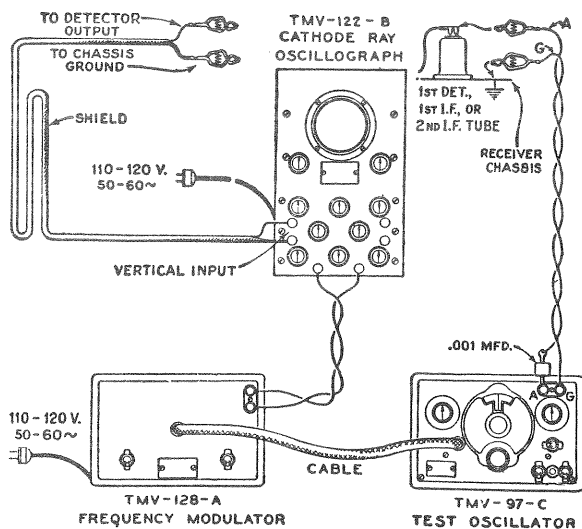
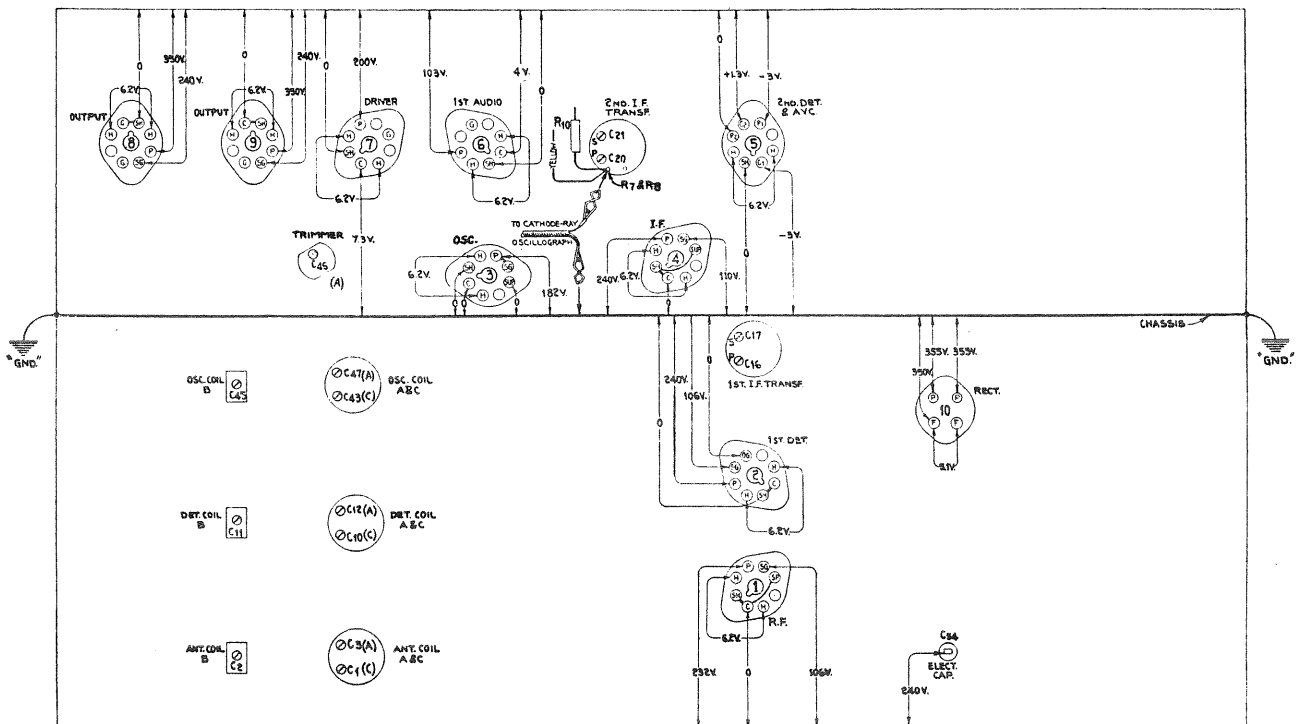

Figure 5—Alignment Apparatus Connections
Figure 6—Trimmer Locations and Radiotron Socket Voltages Measured at 115 Volts A.C.—No Signal—Volume Control Maximum
The four trimmers of the two i-f transformers are located as shown by Figure 6. Each must be aligned to a basic frequency of **460 kc.** The last transformer must be aligned firstly and the first transformer aligned secondly. For such a process, it is necessary to feed the output of the Full Range Oscillator to the stages in their order of alignment, adjusting the trimmers of each transformer and observing the effect at the second detector output on the Cathode-Ray Oscillograph. The proper point of connection of the Oscillograph is with its vertical "high" input terminal attached to the juncture of R-7 and R-8, as illustrated in Figure 6, and with the "0" or ground terminal to the chassis. The "Ext. Sync." terminals of the Oscillograph should be connected to the Frequency Modulator as shown by Figure 5. A .001 mfd. capacitor installed in series with the Oscillator "Ant." lead will prevent the voltages of the stage under alignment from becoming upset. The vertical "A" amplifier should be "On" for the ensuing adjustments and its gain control kept at maximum. For each adjustment, the Oscillator output must be regulated so that the image obtained on the Oscillograph screen will be of the minimum size convenient for accurate observation. Proceed further as follows:—
- (b) Attach the output of the test Oscillator between the control grid cap of the RCA-6K7 i-f tube and chassis ground as shown typically by Figure 5. Tune the Oscillator to **460 kc.** and set its modulation switch to "On." Regulate its output until the signal produces a wave pattern on the Oscillograph screen, adjusting the Oscillograph controls to give a shape which is convenient for peak indications. Cause the image to stand still on the screen by manipulation of the frequency and synchronizing controls. Then carefully tune the two trimmers C-20 and C-21 of the second i-f transformer to produce maximum amplitude (vertical deflection) of the oscillographic image. Under this condition the transformer will be sharply resonated to 460 kc.
- (c) The Frequency Modulator should then be placed in operation and interconnected with the Full Range Oscillator by means of the special shielded patch cord. Figure 5 shows the proper arrangement. Set the Frequency Modulator sweep range switch to its "Lo" position and turn the Oscillator modulation switch to "Off." Change the timing control of the Oscillograph to "Ext." and place the range switch to its No. 2 position. Then carefully shift the tuning of the Oscillator so as to increase its frequency, until two distinct and similar waves appear on the Oscillograph screen and become exactly coincident at their highest points. This condition will be found to occur at an Oscillator setting of *approximately 540 kc.* The curves will be identical in shape but appearing in reversed positions. Adjust the frequency control of the Oscillograph in order to cause the waves to conform with the above requirement and to make them remain motionless on the screen. This will require a setting of approximately  $\frac{1}{2}$  clockwise rotation of the frequency control. The trimmers C-20 and C-21 should then be re-adjusted so that the two curves move together and become exactly coincident throughout their lengths, maintaining the maximum amplitude at which this condition can be brought about.
Locations of the various antenna, detector and oscillator coil trimmers are shown by Figure 6. The test Oscillator should be removed from connection with
sary to have the timing control of the Oscillograph on "Int." for this operation. After each trimmer has been peaked, the Oscillograph timing control should be set to "Ext." and the Frequency Modulator placed into operation with its connections to the Oscillator and Oscillograph made in accordance with Figure 5. Turn the modulation switch of the Oscillator to "Off" and retune the Oscillator (increase frequency) until the forward and reverse waves show on the Oscillograph and become coincident at their highest points. Adjust the trimmers C-47, C-12 and C-3 again, setting each to the point which produces the best coincidence and maximum amplitude of the wave images.
The voltage values indicated from the Radiotron socket contacts to chassis on Figure 6 will serve to assist in the location of causes for faulty operation. Each value as specified should hold within  $\pm 20\%$  when the receiver is normally operative at its rated supply voltage. Variations in excess of this limit will usually be indicative of trouble in the basic circuits. The voltages given are actual operating values and do not allow for inaccuracies which may be caused by the loading effect of a voltmeter's internal resistance. This resistance should be duly considered for all readings. The amount of circuit resistance shunting the meter during measurement will determine the accuracy to be obtained, the error increasing as the meter resistance becomes comparable to or less than the circuit resistance. For the majority of readings, a meter having an internal resistance of 1000 ohms per volt will be satisfactory when the range used for each reading is chosen as high as possible consistent with good readability.